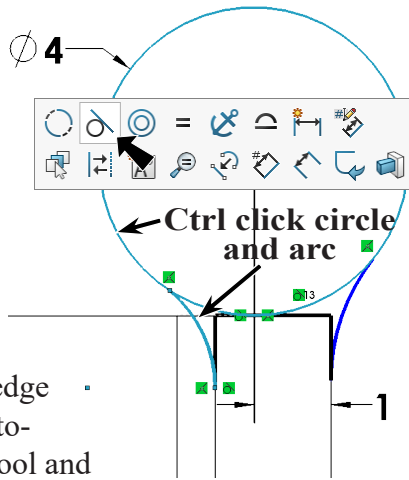

Fig. 8
Step 16. **Ctrl click an arc and circle** to select both. Release Ctrl key and click **Make Tangent**  on the context toolbar, **Fig. 8**.